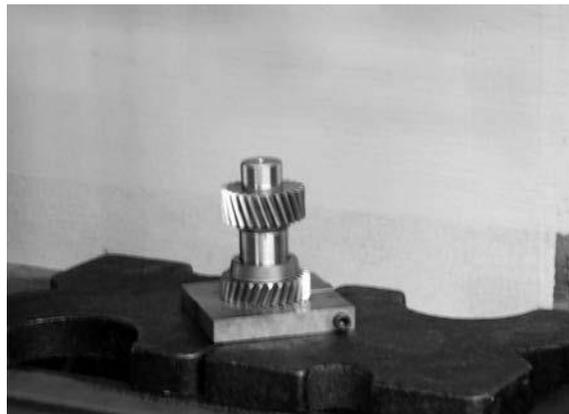

FIGURE 14 | PRESSING 5TH COUNTER GEAR ONTO THE F6R COUNTERSHAFT
1. Once you have removed the stock 5th gear from the countershaft, you are ready to press that gear onto the BAKER F6R (reverse) countershaft. Flip the shaft and tool over and press the gear onto the shaft in the manner demonstrated in figures 14 and 15. Make sure to press the 5th gear snout firmly to the right against 6th gear. It is critical for the overall spacing of the gears down the countershaft.